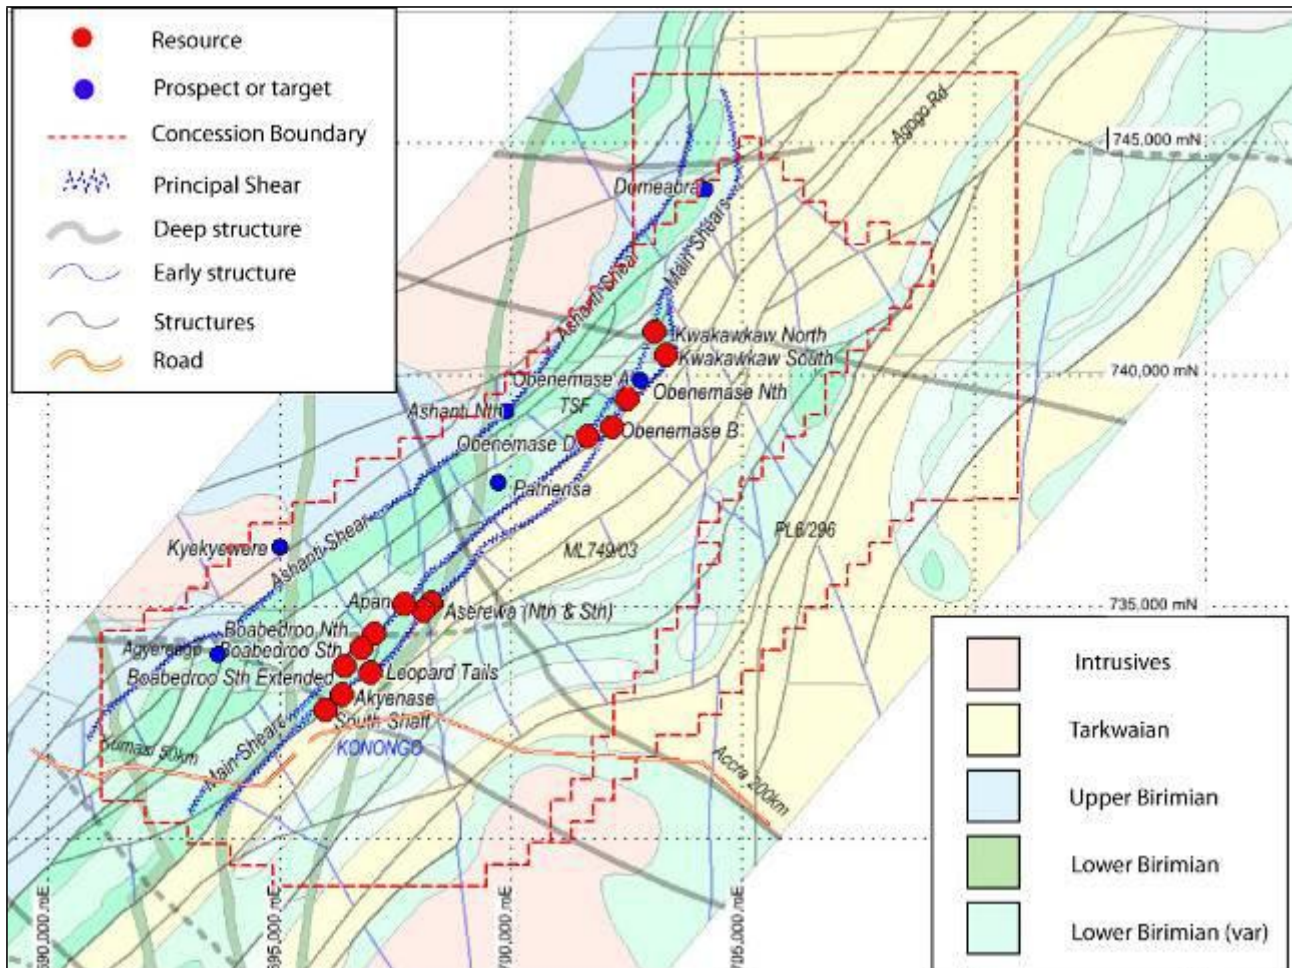
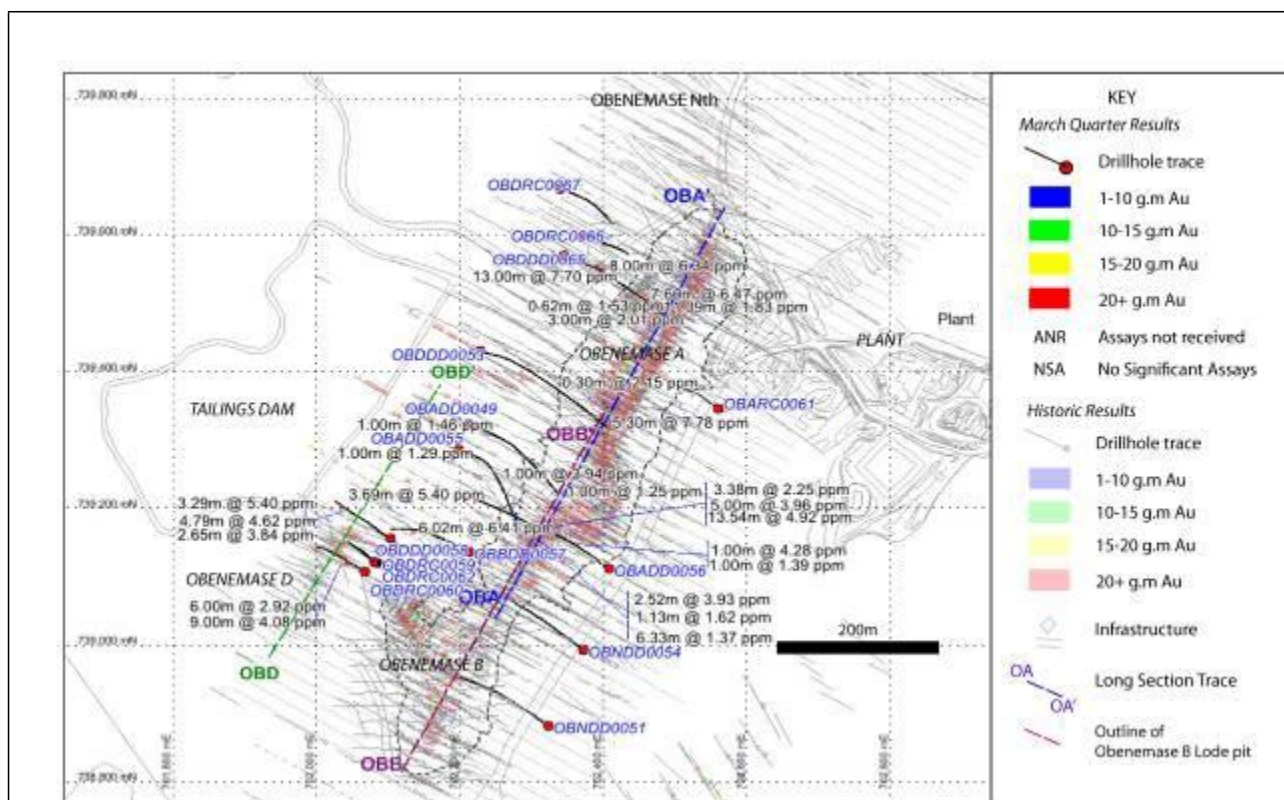
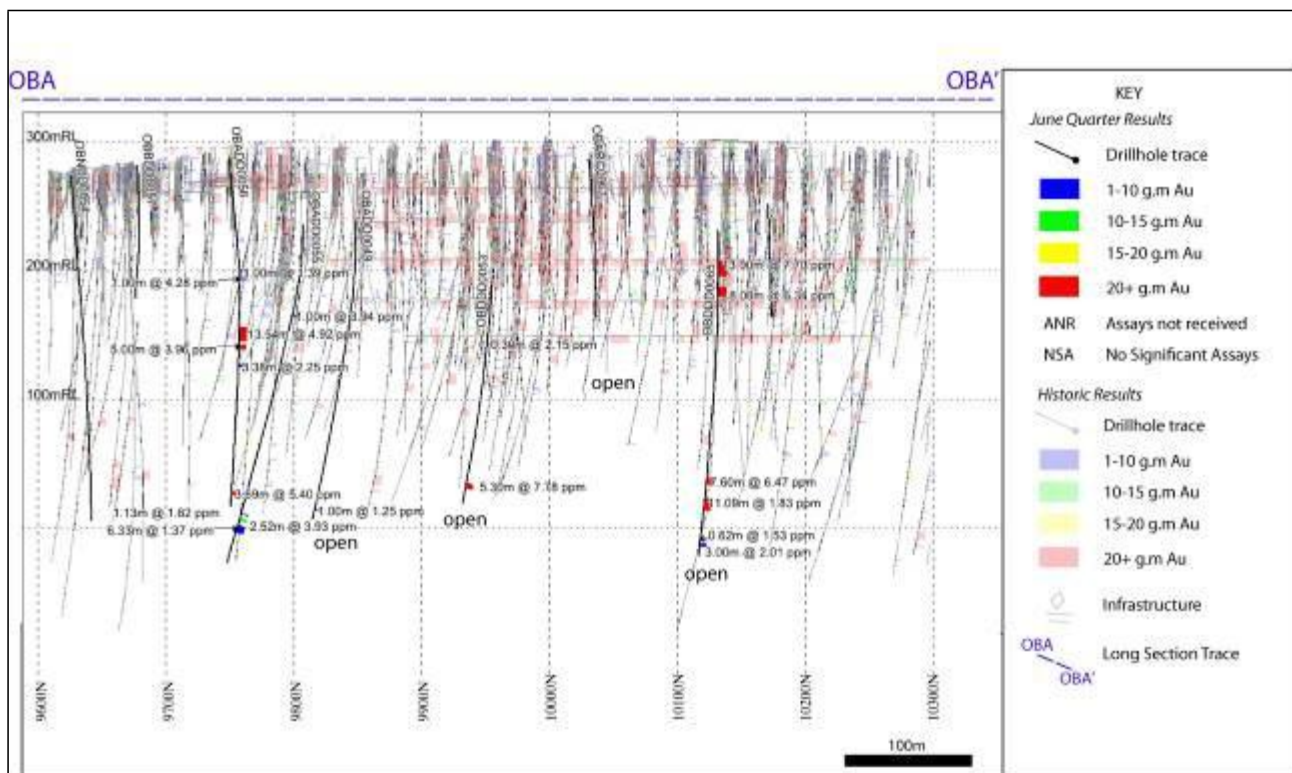
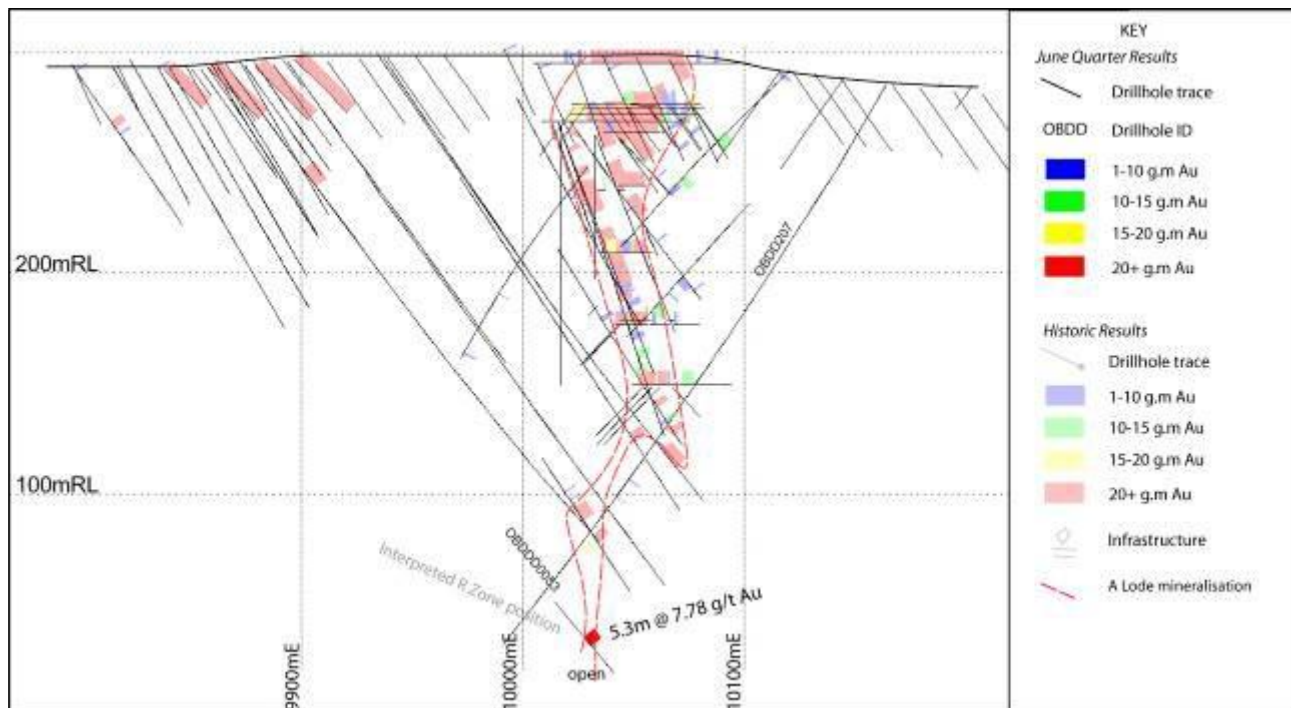

Figure 1 Prospect Locations.
Figure 2 Plan of Obenemase A and Obenemase B
Figure 3 Obenemase A Lode Long Section (OBA-OBA' see Figure 2)
Figure 4 Section 9920N, Obenemase A Lode
- Diamond drilling of the Obenemase A Lode, Obenemase R Zone and Obenemase D Lode (Figure 1).
- RC drilling in support of the diamond drilling program, and two holes at Aserewa (Figure 1).
The Diamond Drilling (DD) program was completed in mid-May. Nine holes were completed for 1,510.8m. RC drilling completed 15 holes for 1,661m. The majority of RC drilling was pre-collars for deeper diamond holes. Significant drilling results are summarised in Table 2 (RC and DD). Targets, resources and locations discussed in the text are shown in Figure 1.
Historically, the Obenemase Deposits were extensively drilled and were mined underground and from two open pits - Obenemase B Pit to the south and Obenemase A Pit to the north. (Figure 1, Figure 2). Underground mining targeted auriferous quartz reefs and some refractory sulphide-hosted gold mineralisation. Current exploration is focused on the sulphide-hosted mineralisation, which occurs adjacent to the quartz reefs or as discrete sulphidic shoots. Mineralisation is stratiform – occurring as moderately northeast plunging ore shoots (40-60 degrees) within meta-volcaniclastic siltstone. The siltstone is folded, plunges northeast and is steeply northwest-dipping. The short limb of second-order folds in the volcaniclastic unit results in shallow to moderate east-dipping, northeast
Full results are included as Table 2. Results are presented as Figure 2 and Figure 3.
Mineralisation remains open down-dip along the tested section and deeper structures or additional shoots with elevated grade or thickness are likely. Previous work indicates that Obenemase A Lode and Obenemase R Zone converge to the northwest. Hole OBADD0053, on section 9920N, represents the likely intersection of the two Lodes (Figure 3). The convergence of the two ore shoots is due to an increasing plunge and down-dip component to Obenemase A Lode mineralisation from the southwest to the northeast, as well as a flattening of R Zone. The lack of mineralisation in OBDD207 at the expected R Zone is interpreted to indicate that the structure controlling the mineralisation – a sub-horizontal second-order fold limb – has terminated or rolled off section (Figure 4).
Obenemase North is a drilling target north of faults encountered at the north end of the Obenemase A Lode (Figure 1). Diamond drilling during the last year has demonstrated that the faults displace, but do not terminate, the Obenemase A Lode. Drilling by Signature Metals identified significant mineralisation 140m north of the northern limit of the Obenemase A Lode pit. No new drilling was completed during the June Quarter.
Two holes were drilled at Aserewa (Figure 1), neither reached target depth. ASWRC0063 was abandoned in broken ground. ASWRC0064 was drilled as a pre-collar. The diamond tail was not drilled.